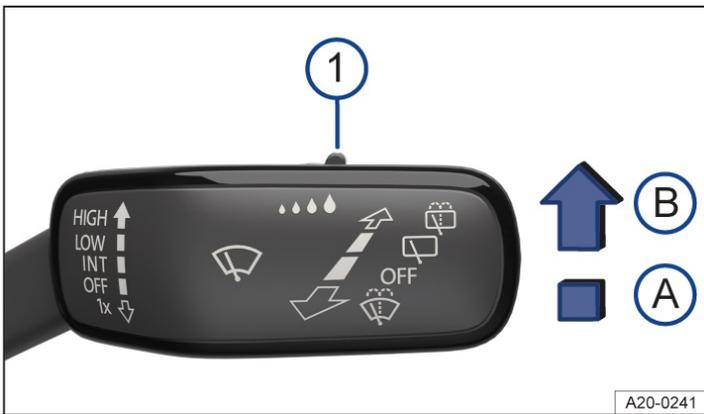

Fig. 1 On the right of the steering column: wiper lever.
1. Push the lever into the required position → *Fig. 1*.
The sensitivity of the rain and light sensor can be adjusted manually using the switch in the wiper lever → *Fig. 1* ¹, →